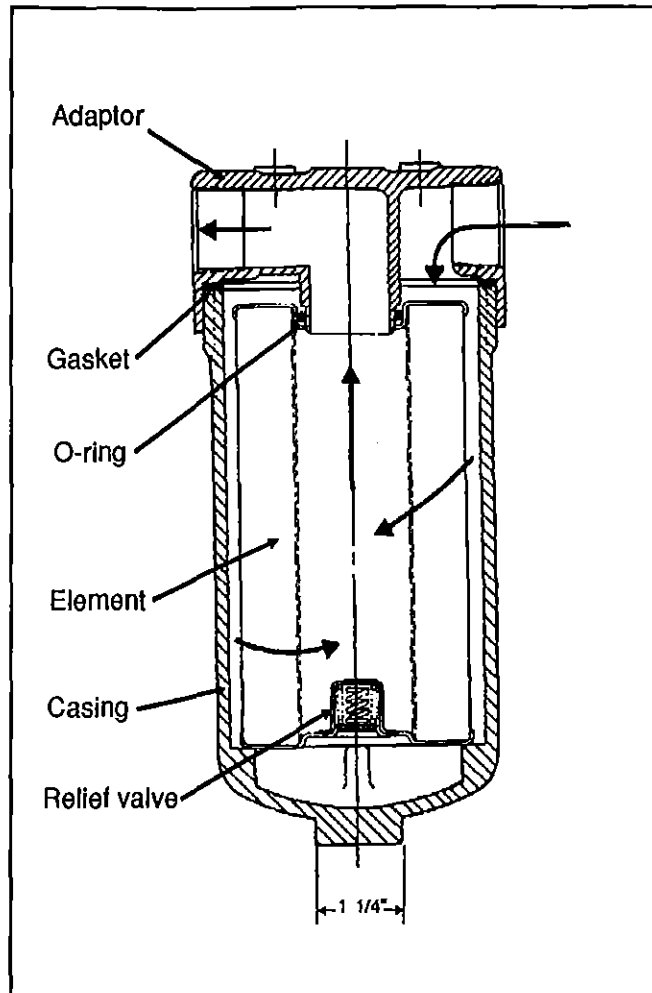

FIG. 30 - Water filter
This vehicle is provided with two (2) identical and cleanable water filters, which are both located in the engine compartment. The filter located near the preheating system, filters the liquid flowing to the main front heating unit and to the driver's heating unit, while the other one, located at rear of compartment near the hydraulic system filter, filters the liquid flowing to the rear heating unit. The filter element uses the micronic principle of filtration which utilizes a resin impregnated cellulose and an accordion pleated design for a maximum filtering area. A relief valve integrated to the filter element allows bypass of the filter in case it would be seriously restricted (see fig. 30).